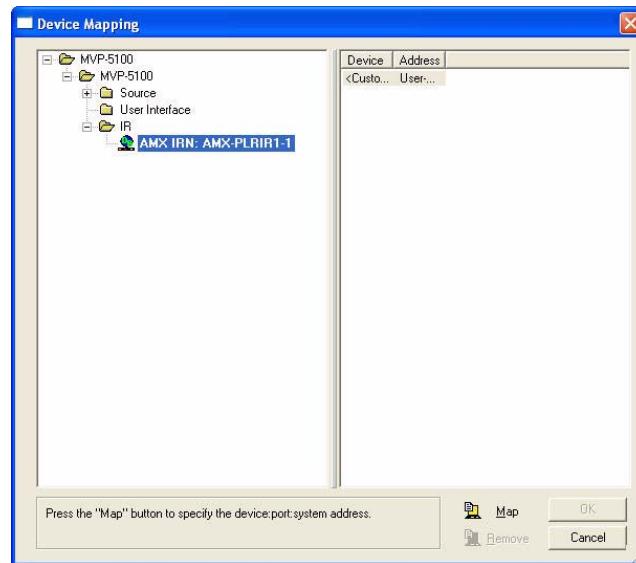

FIG. 75 Device Mapping window
4. When the IR file appears in the Workspace Tree, right-click on the file and select *Device Mapping...* to open the *Device Mapping* window (FIG. 75).